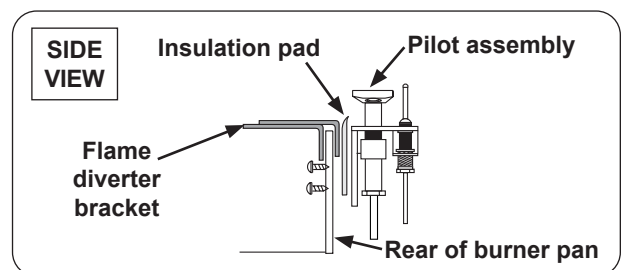

Fig. 4-4 Install pilot assembly
1. Place flame diverter bracket over the rear edge of the burner pan where the pilot mounting bracket will be attached. The bracket should be placed **approximately 1 1/4"** from the side of the burner pan. See Fig. 4-4.